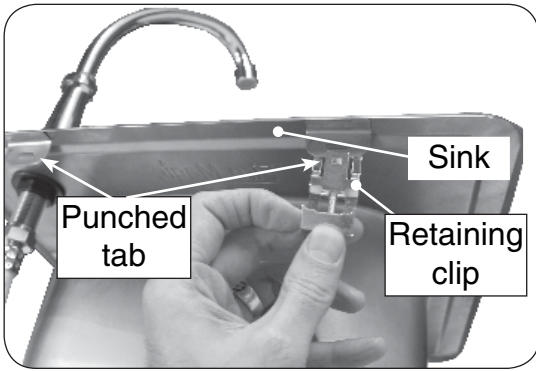

Fig. 4-1
2. From underneath the counter, connect the six (6) anchor clips to the six (6) punched tabs around the outside of the sink by snapping the clips into place as shown in Fig. 4-1.